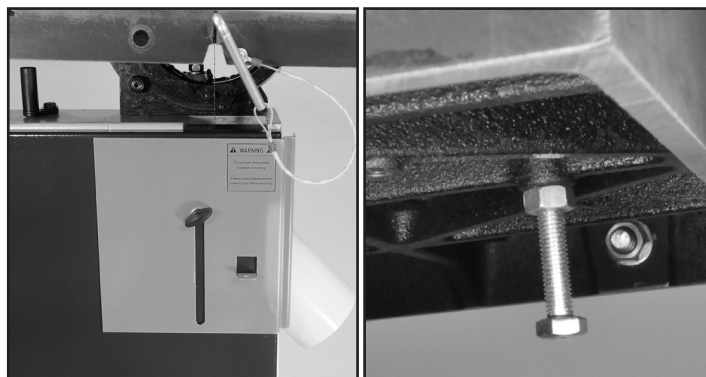

FIGURE 8
Attach the Blade Guard (#37A) to the front of the lower door with the Handle and Washer (#39A, 38A). Slide the guard up to protect the lower guides during use, and slide the guard down when adjusting the lower guides is needed. Fig. 8, A.
2. Thread the Hex Screw (#8B) and Nut (#7B) to the bottom of the table in the pre-bored and tapped hole. Fig. 8, B. Setting the table to 90° to the blade will be done later on pages 12 and 13.